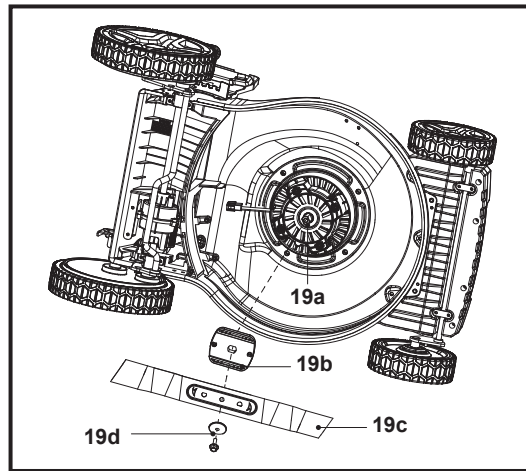

Fig. 23
1. Keep the underbody and cutting blade (19c) clean and free of debris. Remove clippings from the rear discharge chute (23).
5. Replace the cutting blade (19c) with a new one of the same type. Check the status of blade holder (19b) onto the spindle (19a) firstly, then attach the cutting blade (19c) to the blade holder (19b) by aligning it with the correct semi-circle patterns, fit the hex bolt with washers (19d) properly to secure the connection. Tighten the hex bolt (19d) clockwise with 25 Nm min, 35 Nm max. to ensure safe operation of your product (Fig. 23).